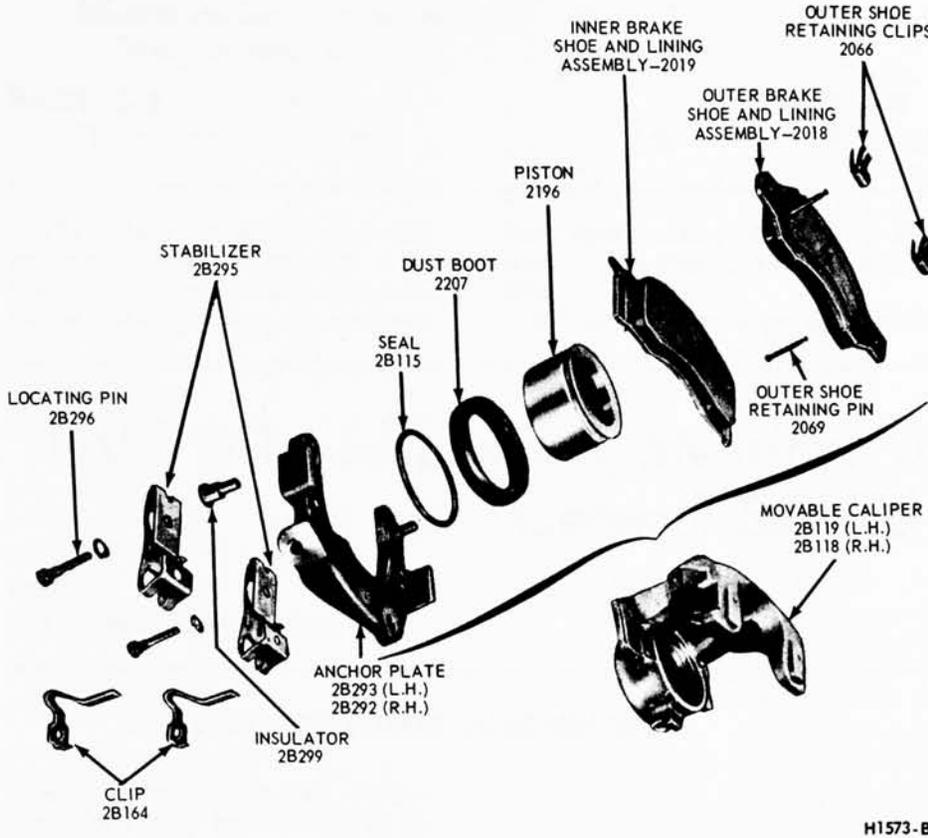

Fig. 9—Caliper Assembly—Disassembled
3. Remove the two outer shoe retaining clips from the retaining pins (Fig. 9).